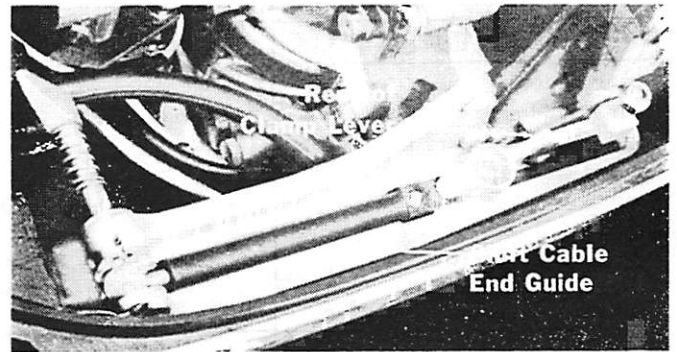

Figure 7. Positioning Lever over Cable End Guide
5. Press down on rear of clamp lever and position lever over cable end guide as shown in Figure 7.